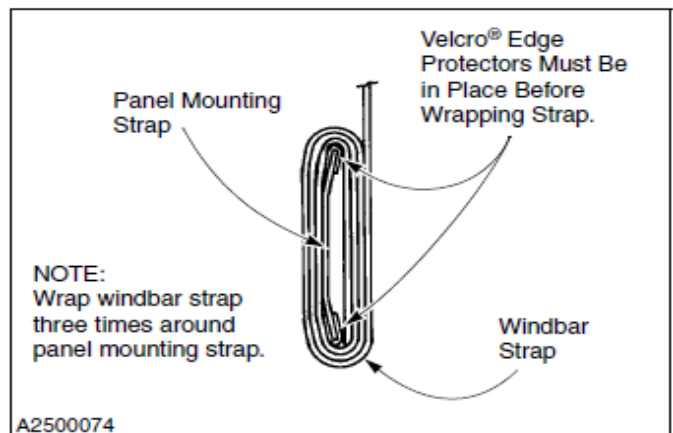

Figure 66
4. Remove the old strap. Then install the new strap by first wrapping it around the panel mounting strap three times, as shown in Figure 66. Make sure the Velcro® edge protectors are in place. (See Figure 66)